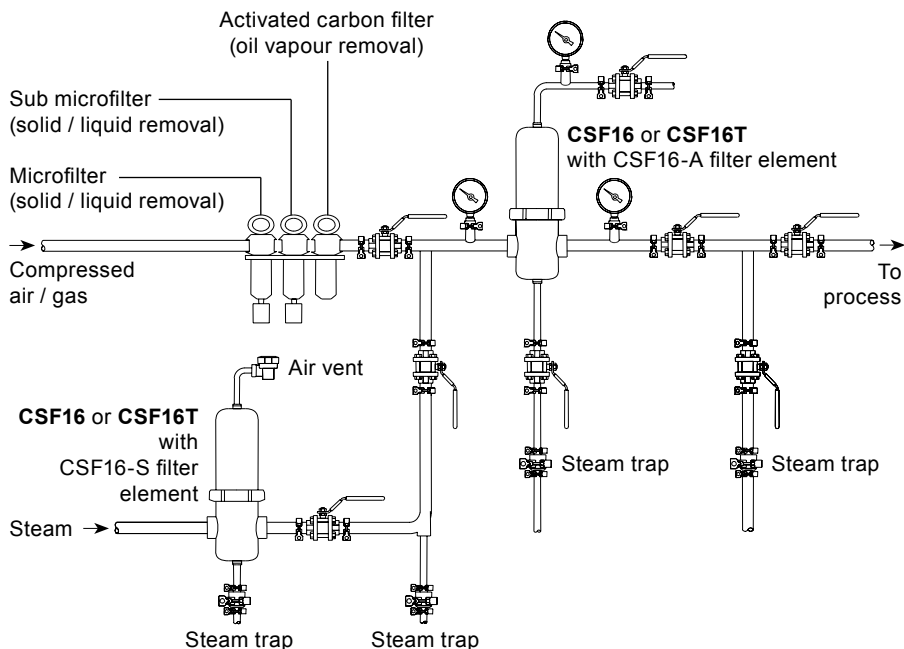

Fig. 6 Typical installation for sterile air
CSF16-A sterile air element: When installed as per Figure 6 (page 11), the air filter element can withstand a minimum of 1 hundred (100) inline sterilization cycles with steam filtered by an CSF16-S element at 121°C for 30 minutes.